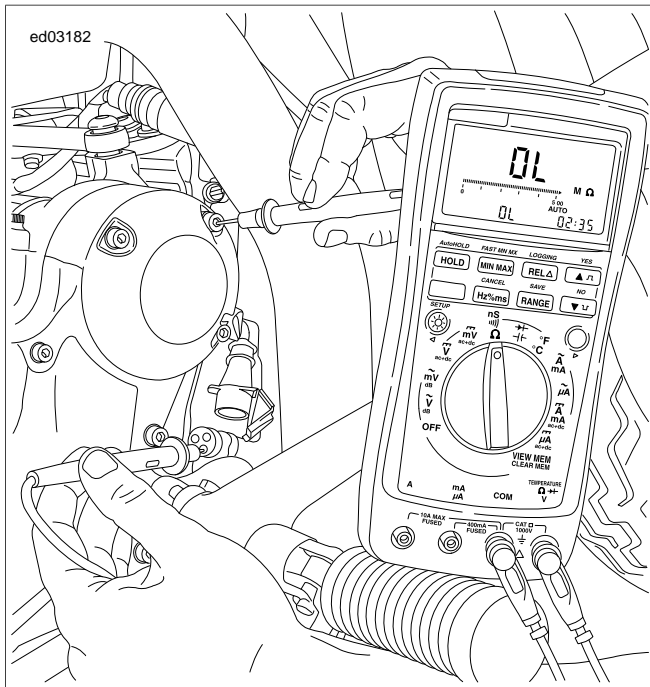

Figure 3-12. Test for Grounded Stator (Typical)
2. See Figure 3-12. Connect an ohmmeter.